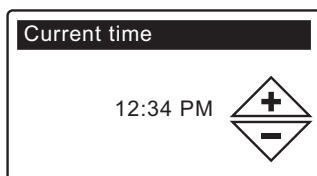

FIG. 18
- 5. CURRENT TIME** Press the DOWN (▼) or UP (▲) buttons to set the current time (See Figure 18). Hold the button down to rapidly advance. Be sure that AM or PM is correct. If the system units were set to metric in Step 3, the clock will be in 24-hour format.